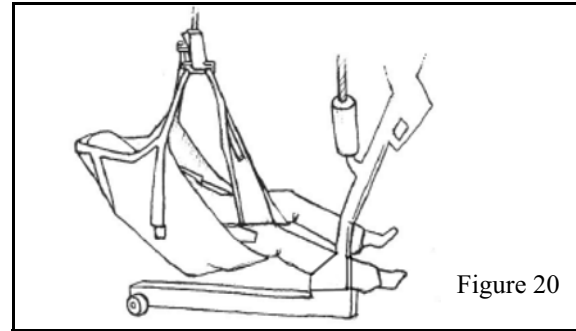

Figure 20
- 8 The resident/patient can now be lifted. Raise the lift until resident/patient is almost clearing the floor and smooth out any "bunching" under the body to improve comfort (see Figure 20).